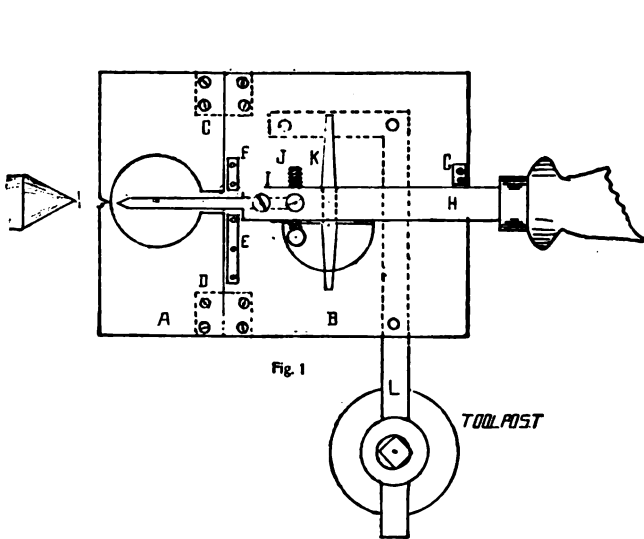

Fig. 1
help to hold the ball firmly in position. Now the tool rest (Fig. 1) is clamped in the tool post by an L-shaped piece of stock (L), riveted to the bottom, just high enough to allow the tool, when resting on the support, to come to the center line of the ball. The tool rest is made of two pieces of sheet metal, A and B, which are hinged together on the line CD, allowing A, which is only used as a gauge for setting the tool to be folded down. E, F, and G are guides for the tool holder, the former two also serving as stops. The tool holder, H, is made of $\frac{3}{8}$ in. square stock, having a $\frac{1}{8}$ in. hole in the end to insert the tools, which are held by means of a set-screw, I. Back of this is the guide screw, J, a piece of 3-16 in. stock is fastened to the end just long enough to reach down into the semi-circular aperture cut into B. K is a crosspiece fastened to the bottom of H to insure a wide bearing on the tool rest. To adjust the tool rest in position we measure the distance between the aperture cut in A and the line C-D, say $\frac{1}{4}$ in. in this
holder in such manner that when the tool-holder is up against the stops E-F-G the point of the drill will be 1-16 in. away from the edge of the hole of the ball (Fig. 1). Turning the gauge plate down the carriage is again moved up to the stop and locked there, the ball having been previously centered, we now take the first cut with the tool up to the stop. The chips may be removed by blowing into the hole with a blowpipe. Back up the carriage again and turn up the gauge plate and insert the second tool and turn the guide screw J to such position that both cutting edges of the tool will be 1-16 in. away from the edge of the hole in the gauge at either end. Once more the gauge is folded down, the carriage moved up to the stop and we take the second cut. In each of the subsequent cuts another tool must be inserted, shaped to fit that part of the circle to be cut away, and the guide screw J must be adjusted to the length of the cut.—Contributed by Wm. Lachmich, Chicago.